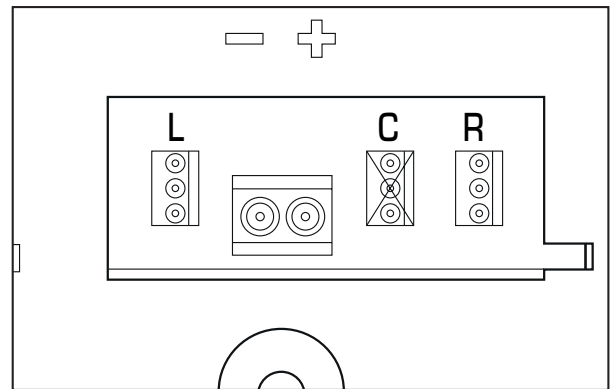
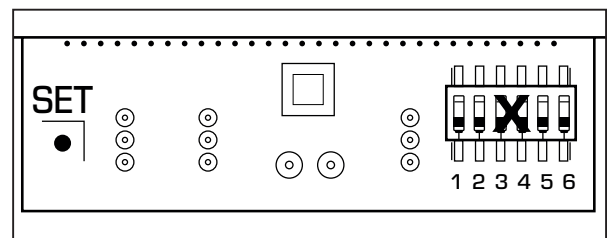

Fig. 1
Fig. 2
STEP 2: The double tank diagram in Fig 1, shows only L & R plugs are used. In Fig 2, switches 1 & 2 are used for L plug and switches 5 & 6 are used for R plug.